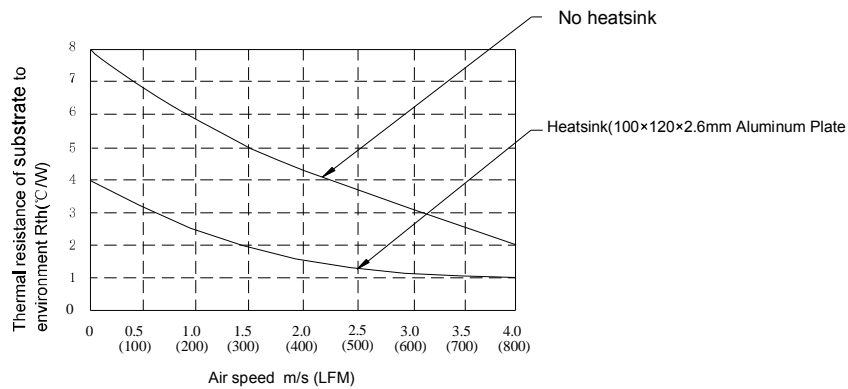

Figure 5 Thermal resistance of substrate to environment VS Air Speed
- ii. According to the R_{th} above and Figure 5 – "Thermal resistance of substrate to environment VS Air Speed", select the corresponding air speed value. It is required to consider the derating curve when determining the air speed in actual thermal design.